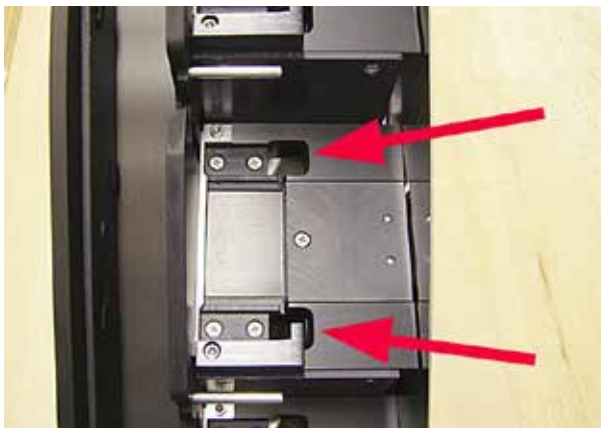

Fig. 45
- Loading station (→ "Fig. 45")